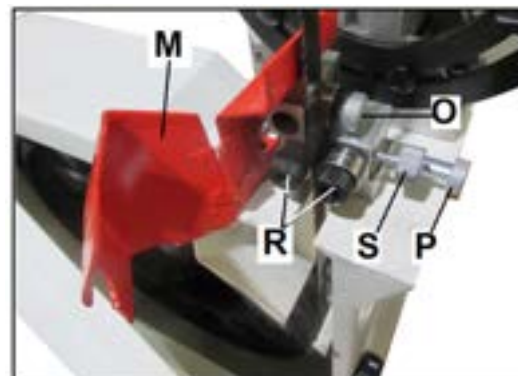

Figure 5-12: lower blade guides
4. Swing the lower blade guard (M – Figure 5-12) to the left.
Refer to Figures 5-12 and 5-13.
2. Open lower door and swing lower guard (M, Figure 5-12) out of the way.